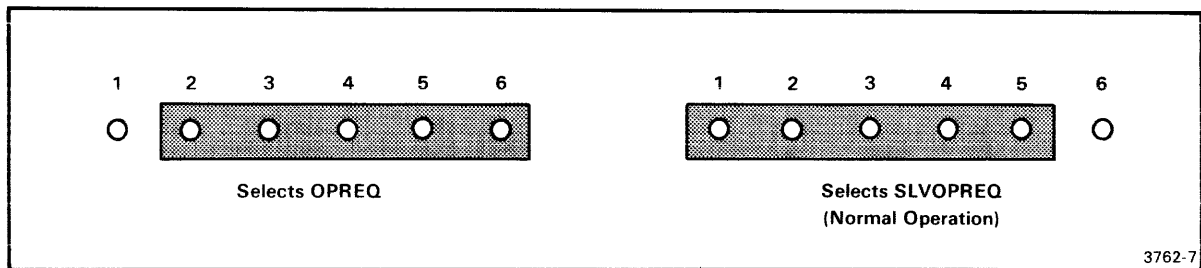

Fig. 2-3. OPREQ/SLVOPREQ selection: J1031.
J1031 This jumper position selects either the SLVOPREQ(L) signal or the OPREQ(L) signal for TTA/system timing. Figure 2-3 shows how this jumper can be configured. During normal operation, this jumper should select the SLVOPREQ(L) signal.